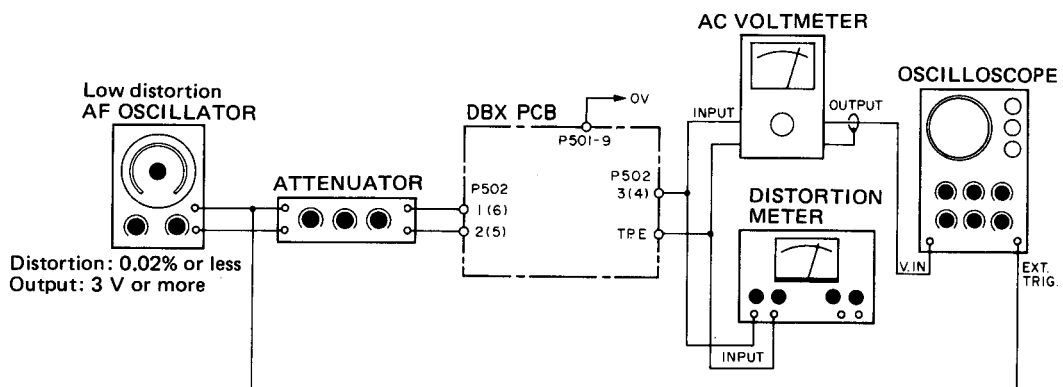

Fig. 5-15
2. Make the Fig. 5-15 connections, then feed a 1 kHz/ $-8$  dB (308 mV) input signal to the INPUT terminal. Adjust R55/R65 (DECODING LEVEL) so that AC voltmeter reads  $-8$  dB (308 mV).
3. Check that when the input signal is 100 Hz/ $-8$  dB (308 mV), then 10 kHz/ $-8$  dB, the output signal from 3(4) terminal (OUTPUT) deviates by  $-1$  dB  $\pm 0.5$  dB, then  $+5$  dB  $\pm 0.5$  dB from  $-8$  dB (reference), respectively..... so that output, as a voltage value, should be 652 mV to 731 mV for 100 Hz, and 1.30 V to 1.46 V for 10 kHz.